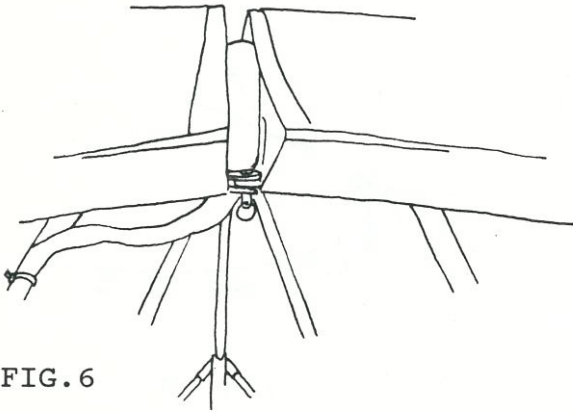
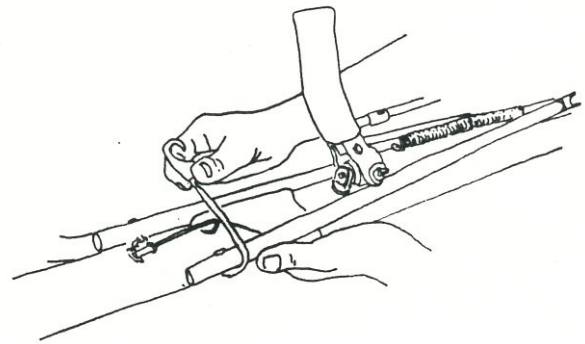

FIG. 6
FIG. 6a
6. Remove the second wing from the box, and slide completely onto spar and locator pins. Make sure to align the holes in the wing connector tangs.(fig.6) Pin the wings together with the wing connector pins that are stored with their safety rings to the left wing control rod. Note: The control rods are stored by laying them against the hang-tube, wrapping the chest bungee around the control rods and hang-tube, and hooking the bungee to itself.(fig.6a)